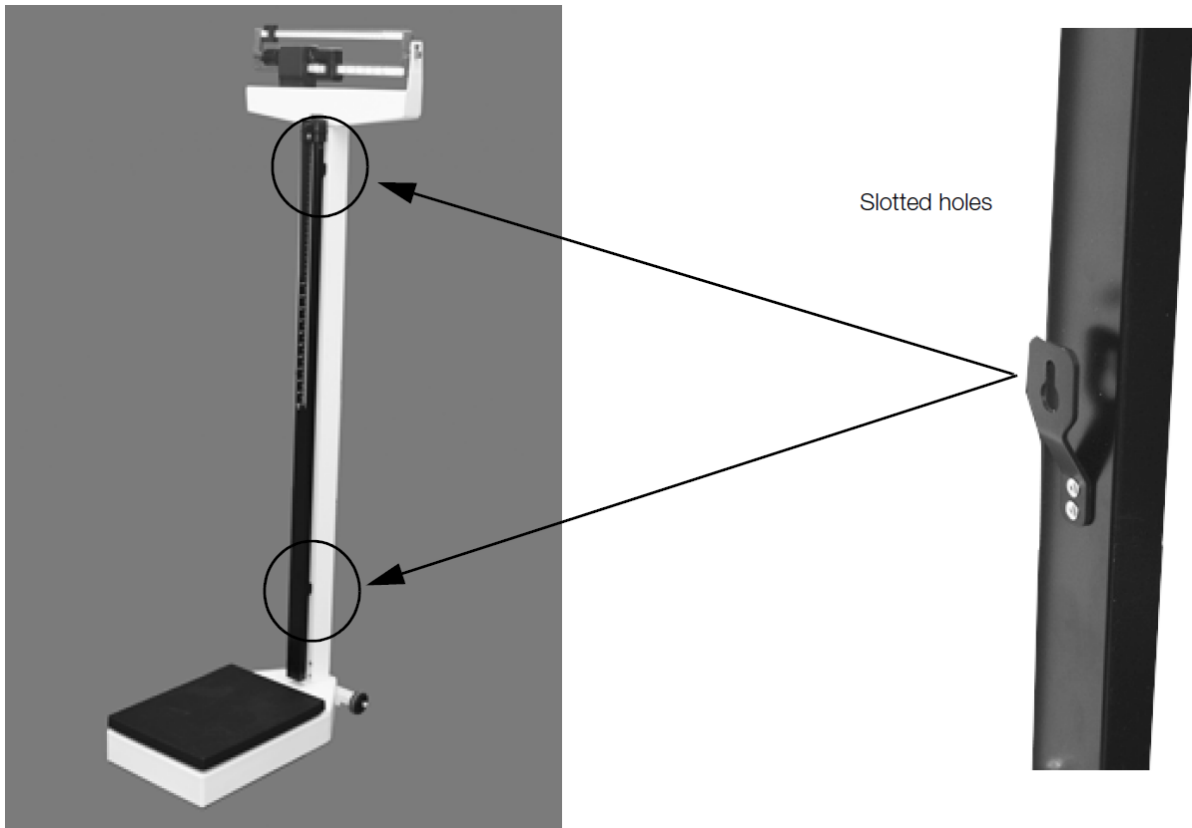

Figure 7. Attach the Slotted Screw Location onto the Pillar Bolt Location
1. Insert the slotted holes on the back of the height rod into the two bolts on the front of the pillar as shown in Figure 7.